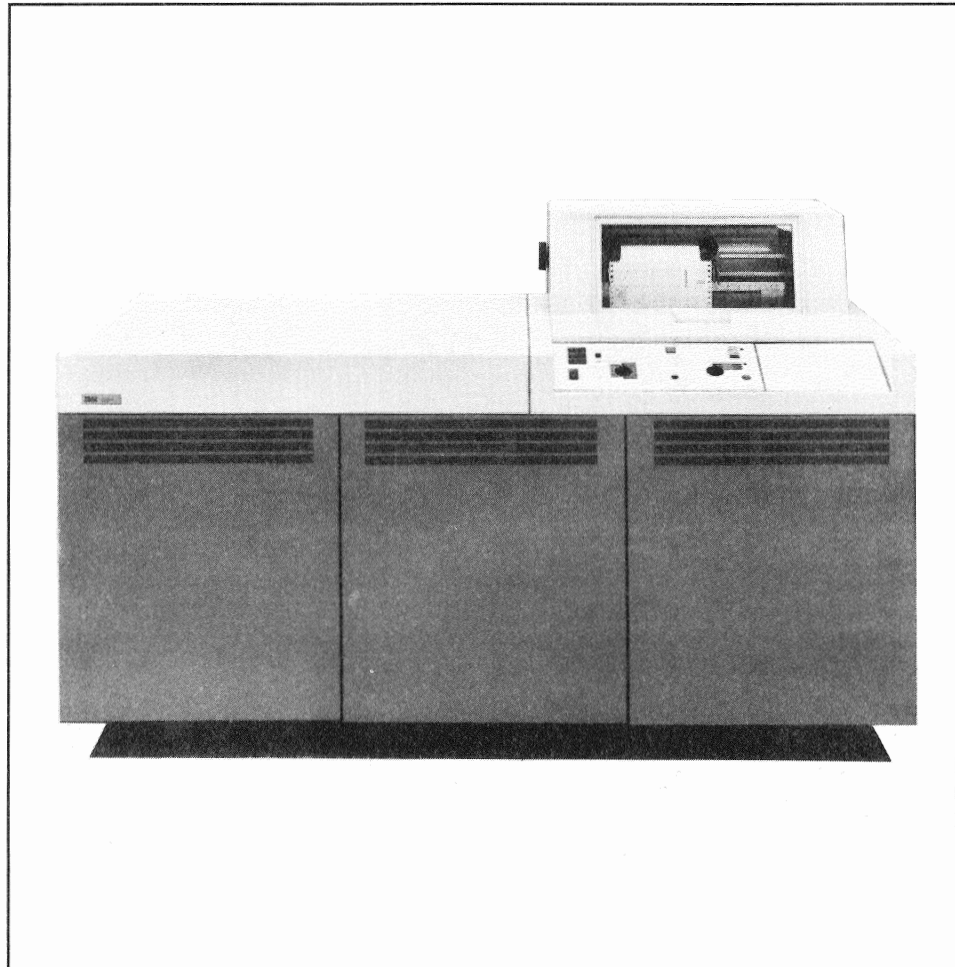

Figure 11-3790-2. 3791 Controller
- One line printer with 80 or 132 print positions and speeds of 155 or 410 lines per minute (See Figure 11-3790-3 on page 11-3790-3)